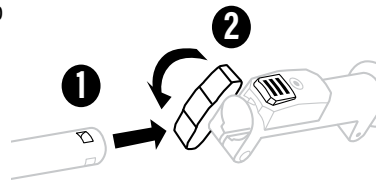

Fig. 2B
3. Align the installation hole on the pole saw attachment shaft with the arrow on the powerhead shaft, and push the pole saw attachment shaft into the powerhead shaft until you hear a "click" sound, which means that the pole saw attachment shaft is mounted into place (Fig. 2B, 1).
5. Tighten the wing knob firmly (Fig. 2B, 2).